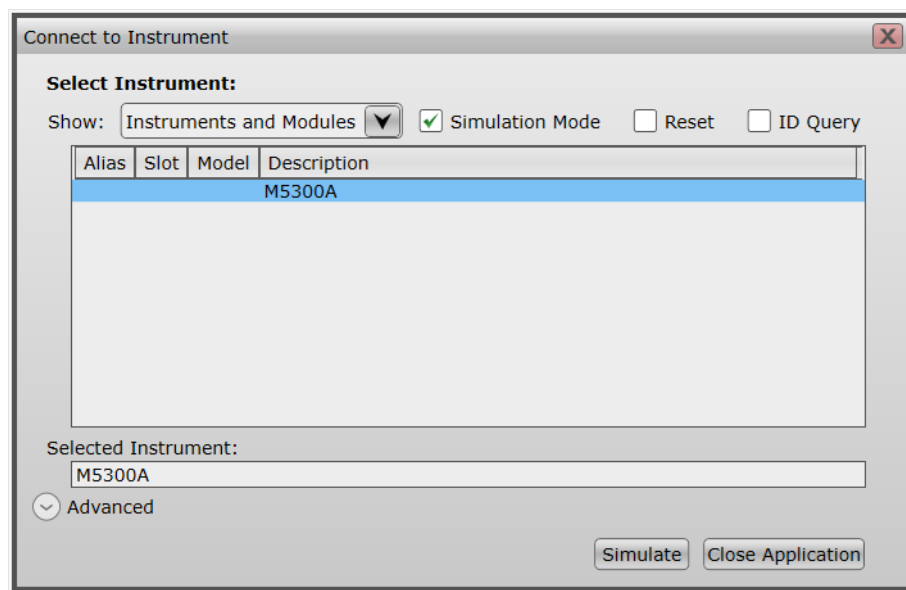

Figure 66 Simulation Mode in the Connect to Instrument window
- **Connect / Simulate** – When this button is labeled as **Connect**, it initiates the connection to the selected instrument or hardware module. If **Simulation Mode** is checked, this button is labeled as **Simulate**, as shown in Figure 66. Click the button to initiate a session with only the driver(s) for the selected instrument or module (not an actual hardware connection).